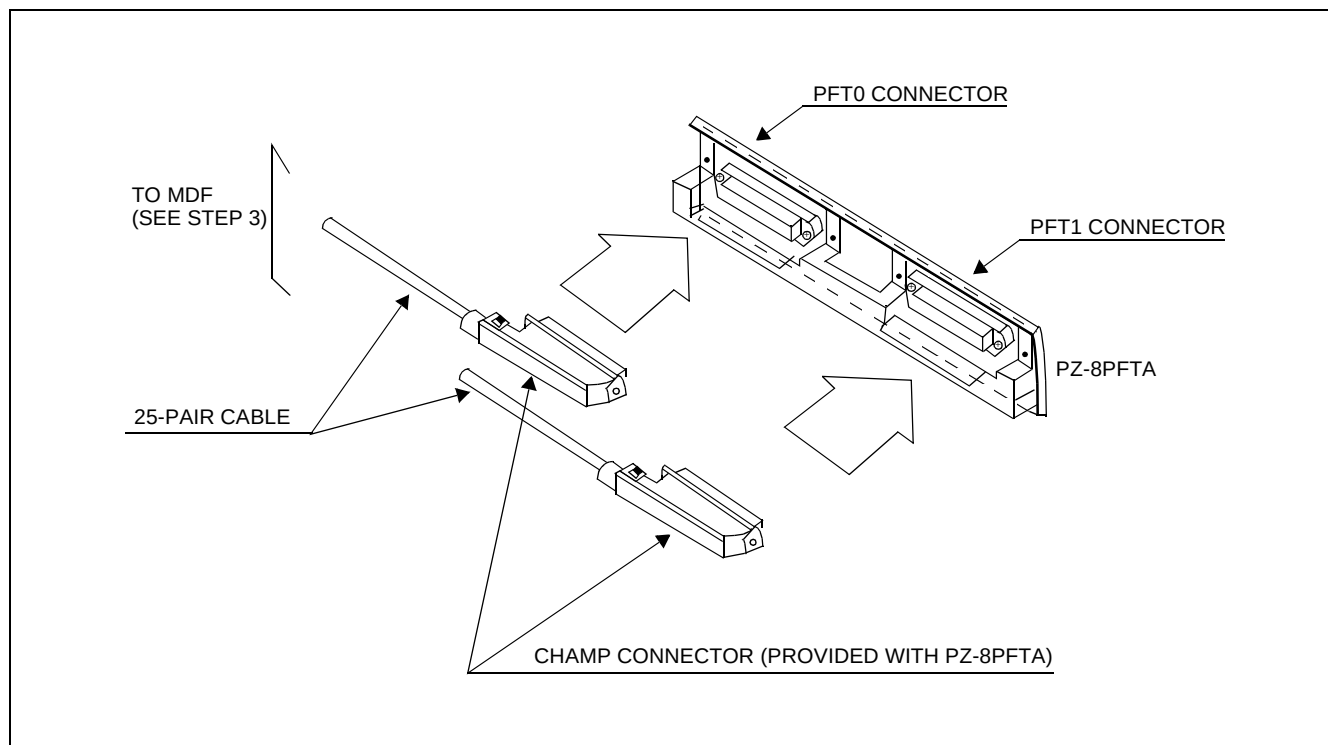

Figure 007-34 Connection of 25-Pair Cable and PZ-8PFTA
STEP 2: Connect the champ connectors of 25-pair cables to the PFT0 and PFT1 connectors on the PZ-8PFTA card as shown in Figure 007-34. Then, secure them to each other using screws and tie wraps.